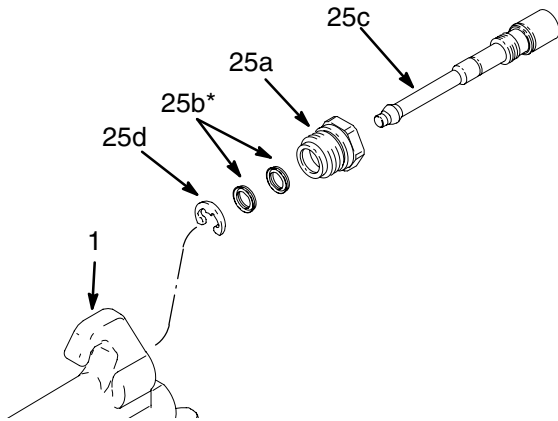

Fig. 25
1. Unscrew the pattern adjustment valve assembly (25). See Fig. 25.